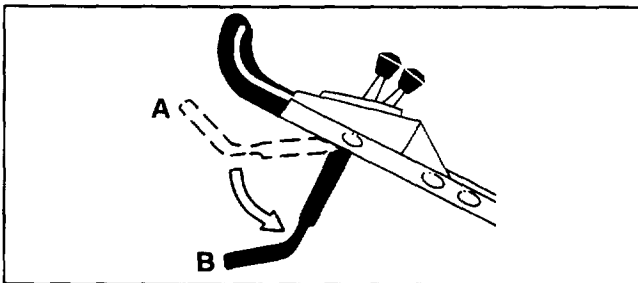

Figure 16
7. Push control bar down to lowest position (Fig. 16, position B).
3. Push the control bar (Fig. 16) down to the lowest position.